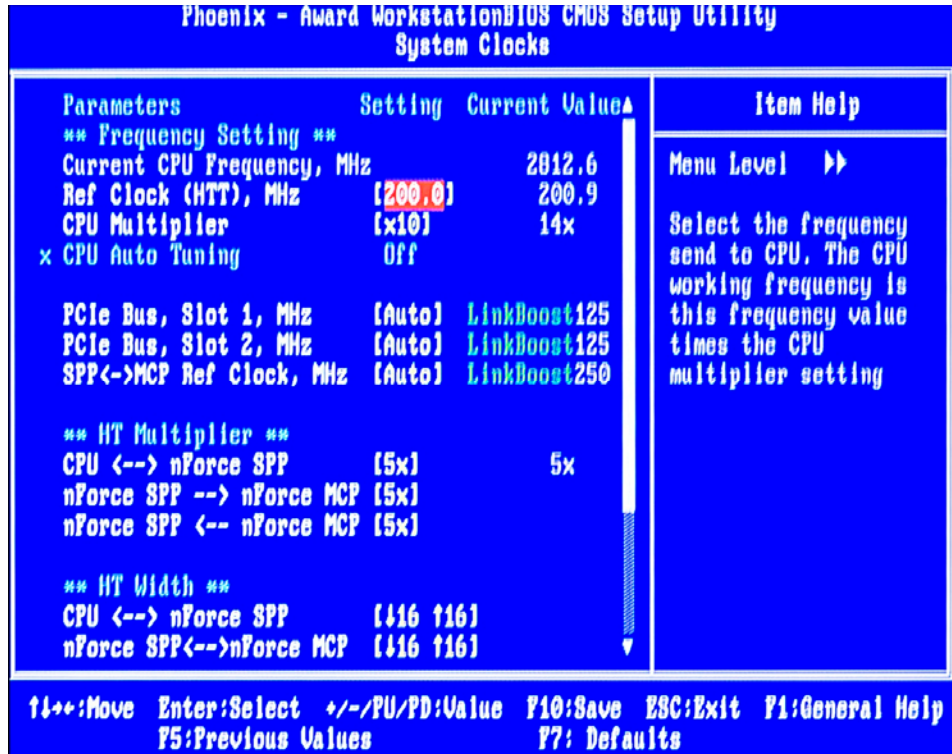

Figure 8. System Clocks BIOS Configuration for CPU HTT Overclocking
1. Eliminate all sources of instability by configuring **System Clocks** BIOS settings as shown in Figure 8.